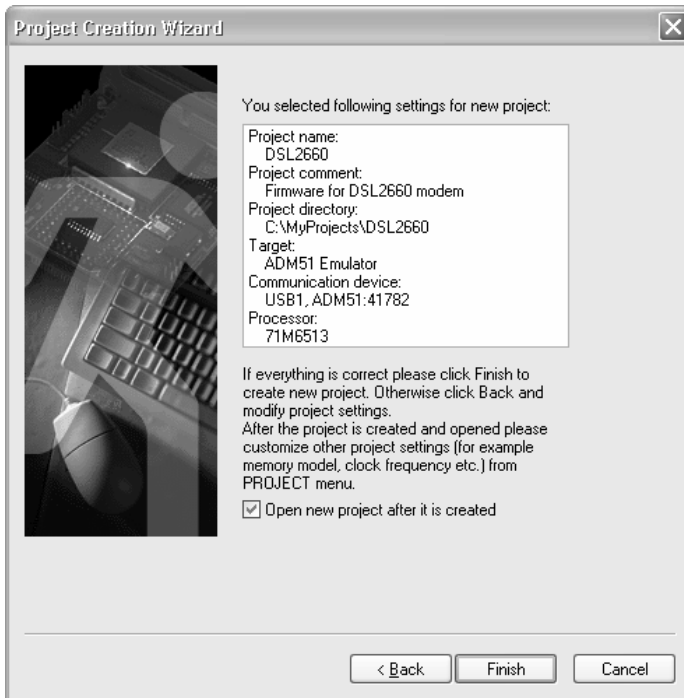

FIGURE 7 Verifying the project settings.
10. In its last dialog box, the Create Project Wizard displays all the selections you made. To correct the entries, click Back and modify the settings. If you are satisfied with the setting, make sure that the Open New Project after it is Created check box is checked (Figure 7) and click the Finish button.